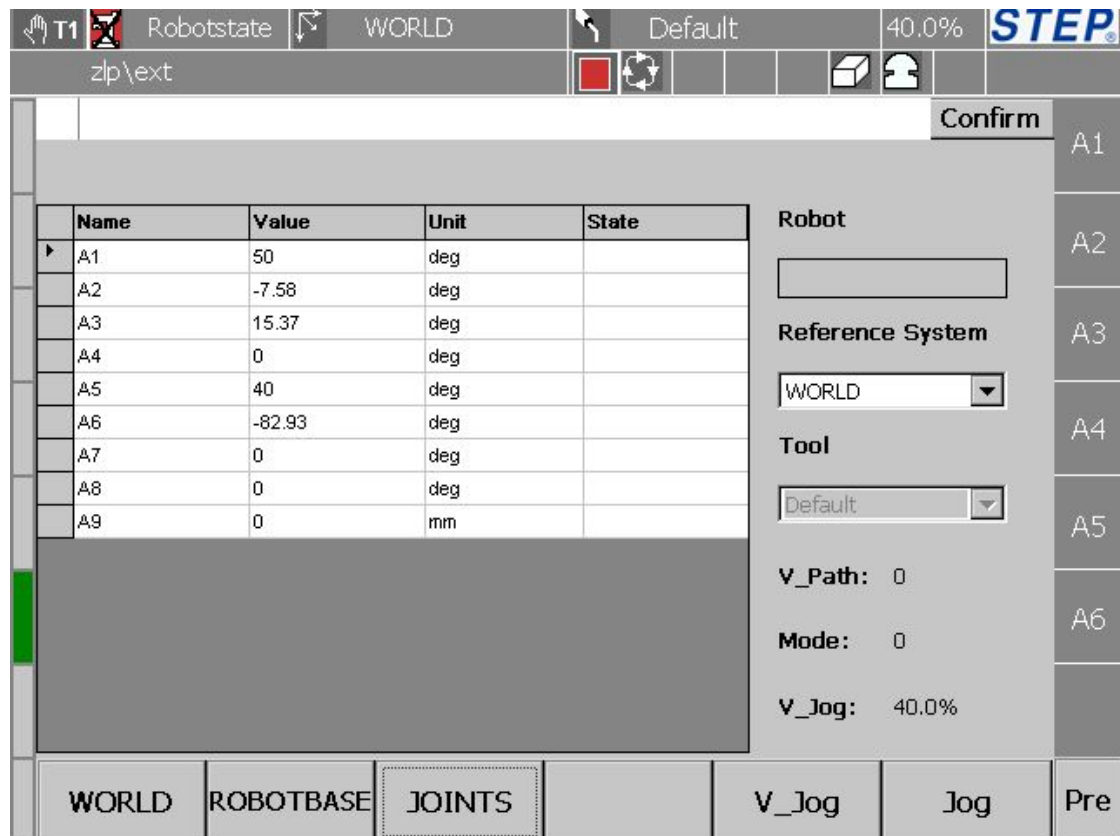
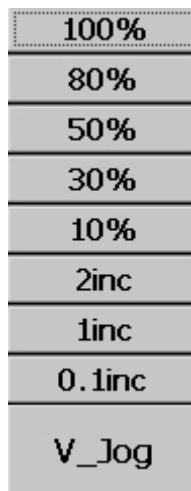

Figure 10 Robot's Joint Position Display
Figure 11 OVERRIDE Setting
- The TCP position display can be switched between two spaces: joint space and Cartesian space. The position of the Cartesian space is shown in figure 10 and the position of the joint space is shown in figure 11.
- The switching of TCP position display reference coordinate: There are four buttons at the bottom of the interface: "WORLD", "ROBOTBASE", "Joints", "reff" (as shown in figure 10). The buttons respectively respond to world coordinate system, base coordinate system, joint space, user-defined reference coordinate system.
- It is switched to joint space position display only when the Joints button is pressed. The "Reference System" drop-down box on the right is used to select the user-defined reference coordinate system (for example, in figure 10, when "reff" coordinate system is selected from the box, the button corresponding to the user-defined reference coordinate system at the bottom shows "reff", which means if additional axis is configured, the additional axis coordinate system option appears here).